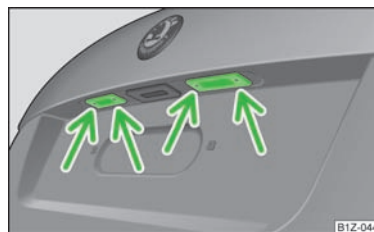

Fig. 170
- › Open the luggage compartment door and unscrew the glass cover » Fig. 170.